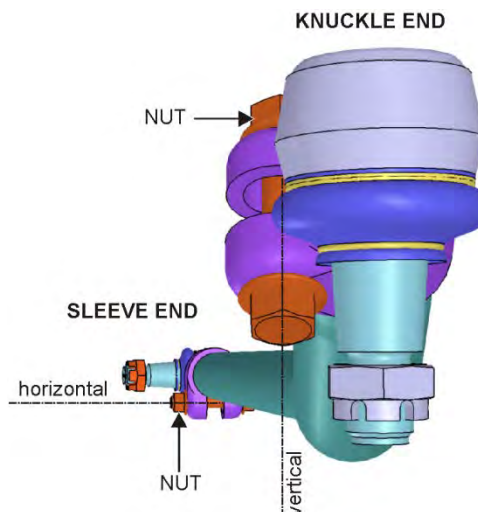

FIGURE 6: NOTE THE VERTICAL ORIENTATION OF THE CLAMP BOLT AT THE KNUCKLE END AND ON WHICH SIDE THE NUT MUST BE POSITIONED
10. To prevent interference between the ball joint clamp bolts and other components of the steering system, the clamp bolt must be positioned vertically as shown on FIGURE 6. **Tighten the clamp nut to 118-133 lbf-ft.**